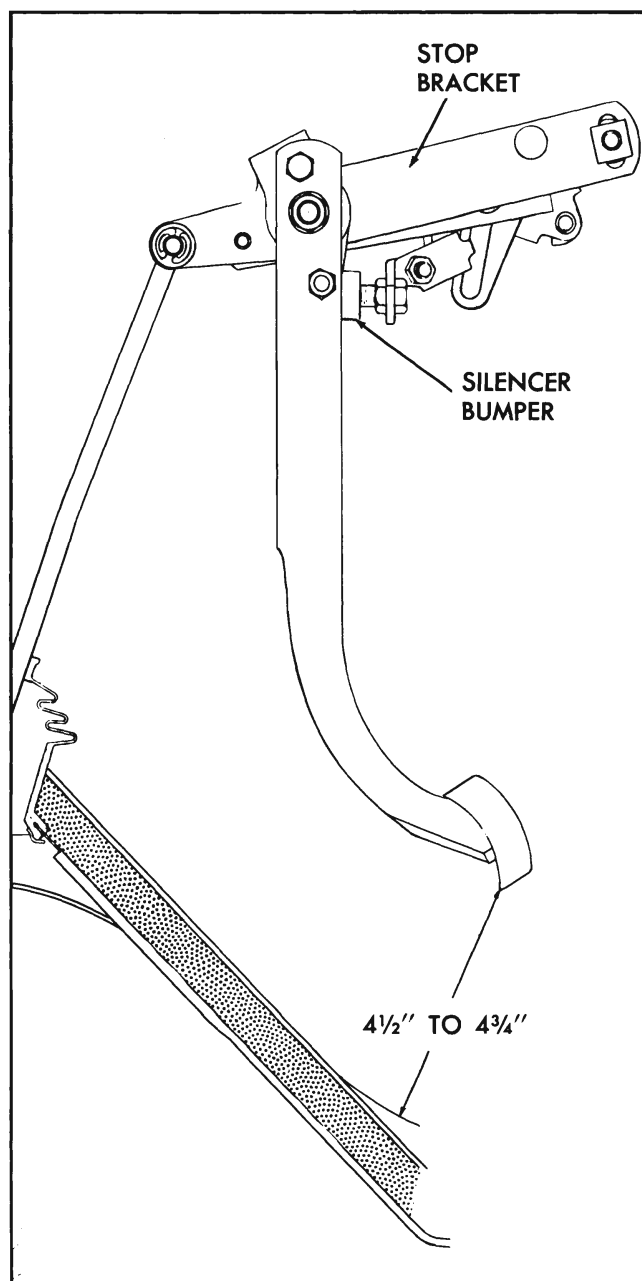

Fig. 6D-3. Clutch Pedal Clearance
2. Adjust position of stop bracket assembly to established correct pedal height (Fig. 6D-3).